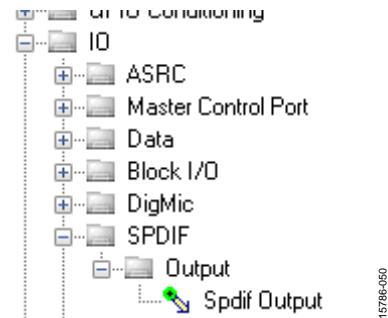

Figure 50. S/PDIF Output Block Selection
- a. From the **IO > SPDIF > Output** folder, click **Spdif Output** (see Figure 50) and drag it into the project space to the right of the toolbox.